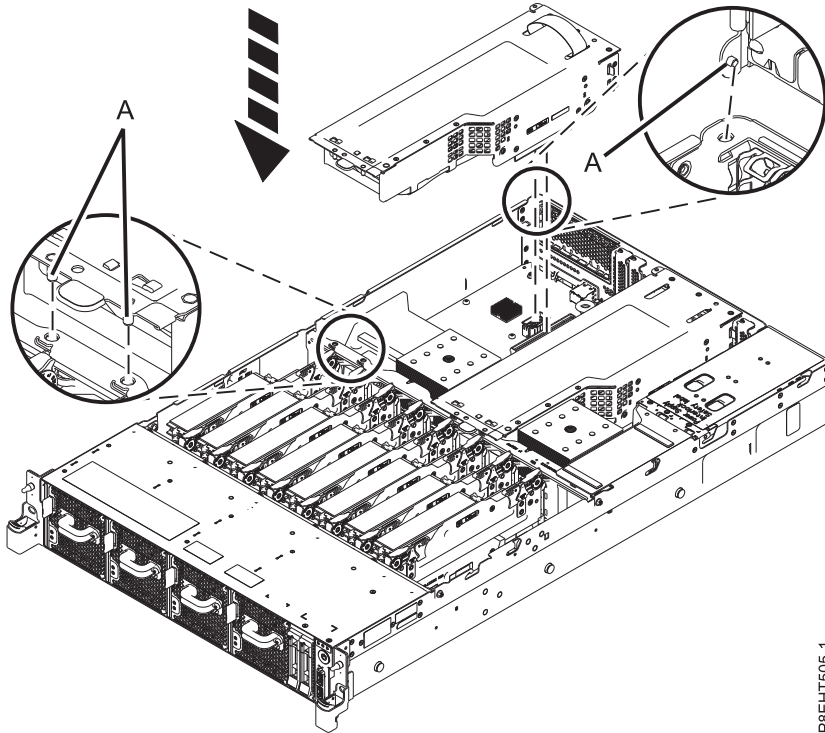

Figure 30. Inserting the PCIe riser
2. Using the 3 alignment pins, place the replacement GPU PCIe riser into the system. Push it down into place until it is firmly seated in the system. See Figure 30.